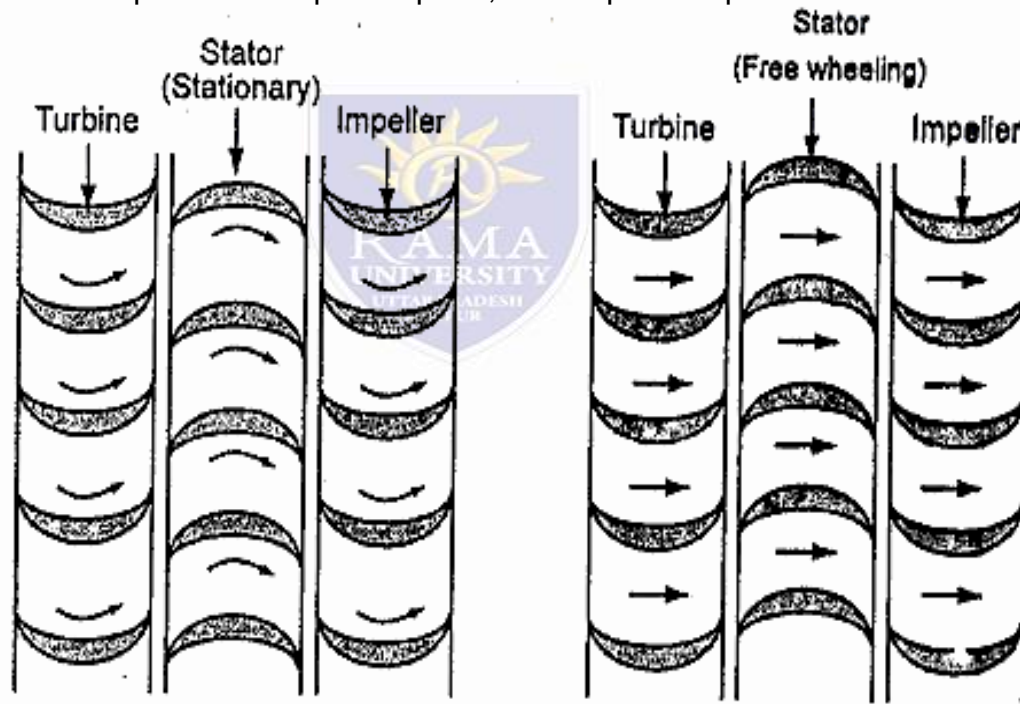

Figure 3.40
- It means, a stator changes its direction suitably to leave the oil from the stator striking the impeller in the same direction of impeller turning as shown in Figure 3.40.